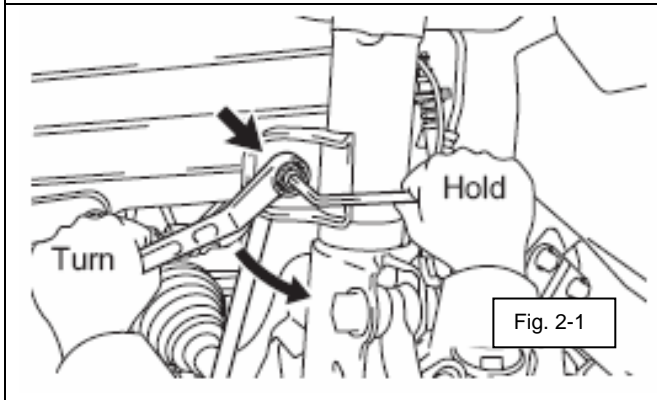

Fig. 2-1
- (1) Raise vehicle so wheel is at chest height.
- (b) Separate front stabilizer link from the strut assy. If the ball joint spins use a 6mm allen wrench to hold the center stud in place. (Fig. 2-1) (17mm)